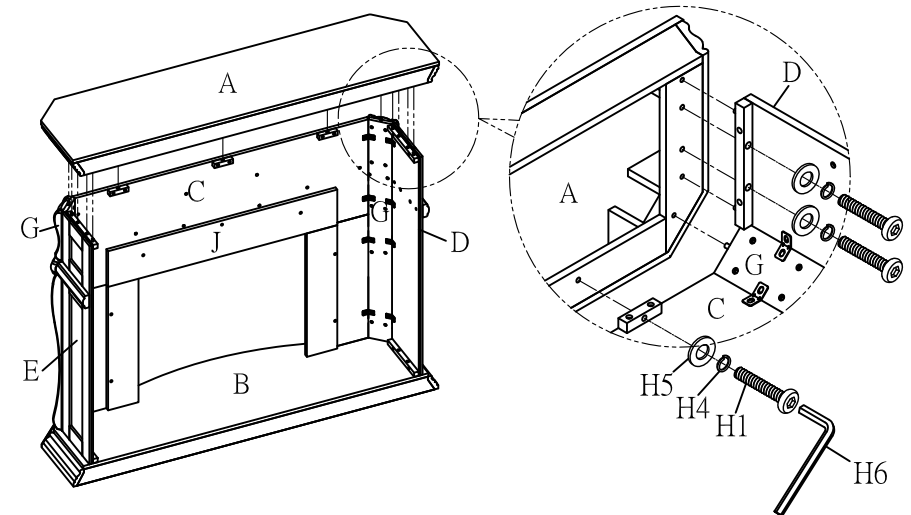

Figure 9
With assistance from other adults, carefully lift Top (A) and gently place it onto the assembled mantel carefully aligning the tenons on the Left Side Panel (D), Right Side Panel (E) and Posts (G) with the corresponding holes on Top (A). Attach Top (A) to Left Side Panel (D), Right Side Panel (E) and Front Panel (C) using Long Bolt (H1), Spring Washer (H4), Flat Washer (H5) and Allen Wrench (H6) as shown in Figure 9. Adjust all parts and FULLY TIGHTEN ALL BOLTS from previous steps.